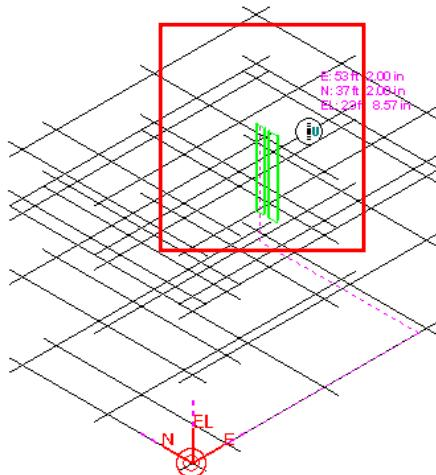

Figure 61: Starting Point for Horizontal Multi Tray
- If you want to route a vertical multi tray, you can select the Along Depth option in the **Mode** drop-down list in the **New Cableway** dialog box. The rest of the steps for routing vertical multi trays are the same as the steps for routing horizontal multi trays. If you route a vertical multi tray, the multi tray will look like Figure 61.